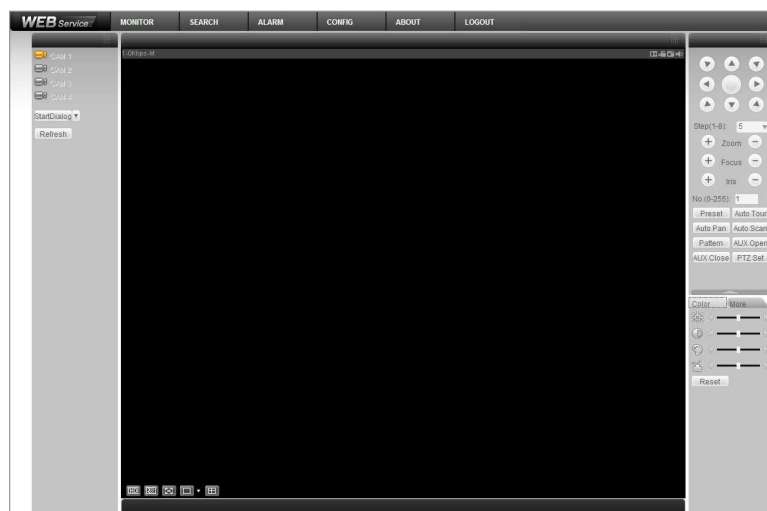

Figure 6-15
- 2) You can select different channel and different monitor mode at the bottom of the interface. See Figure 6-15.